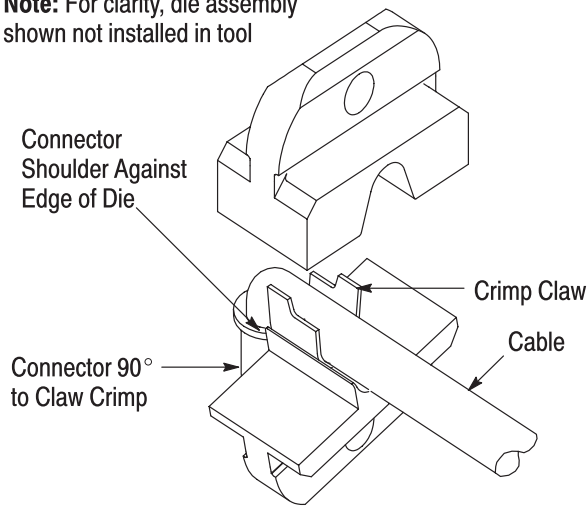

Figure 3
3. Place the crimp claw of the ferrule in the nest of the anvil die so that the shoulder of the connector butts against the edge of the die. See Figure 3.